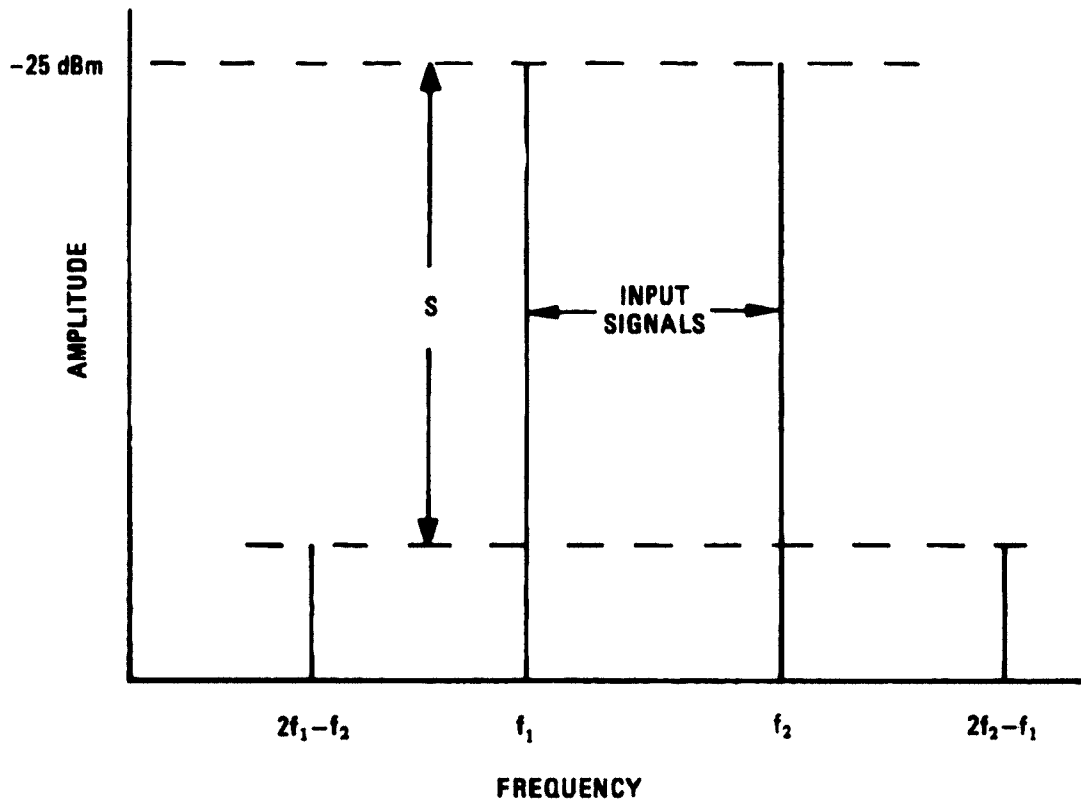

Figure 2-30. Third Order Intermodulation Products
40. The result should be $> +7$ dBm. Refer to Figure 2-30.